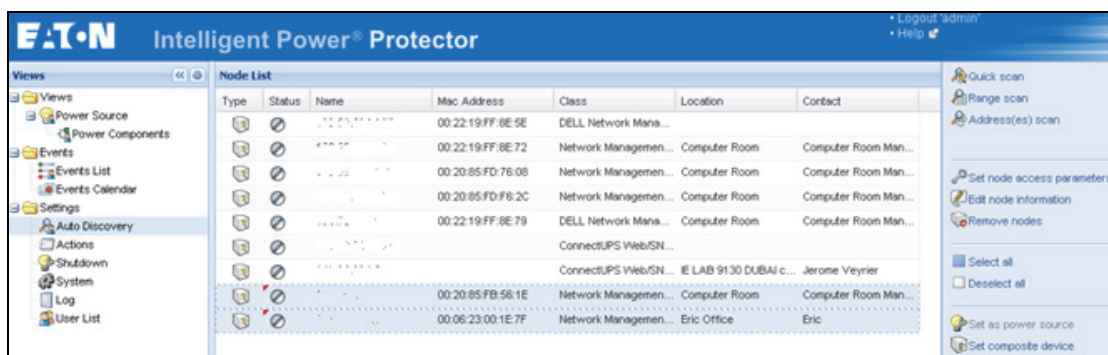

Figure 55. Selecting Set Composite Device for Nodes
3. Click **Set composite device** in the right panel (see Figure 55).
Actions you can perform on the new node are as follows (see Figure 55):